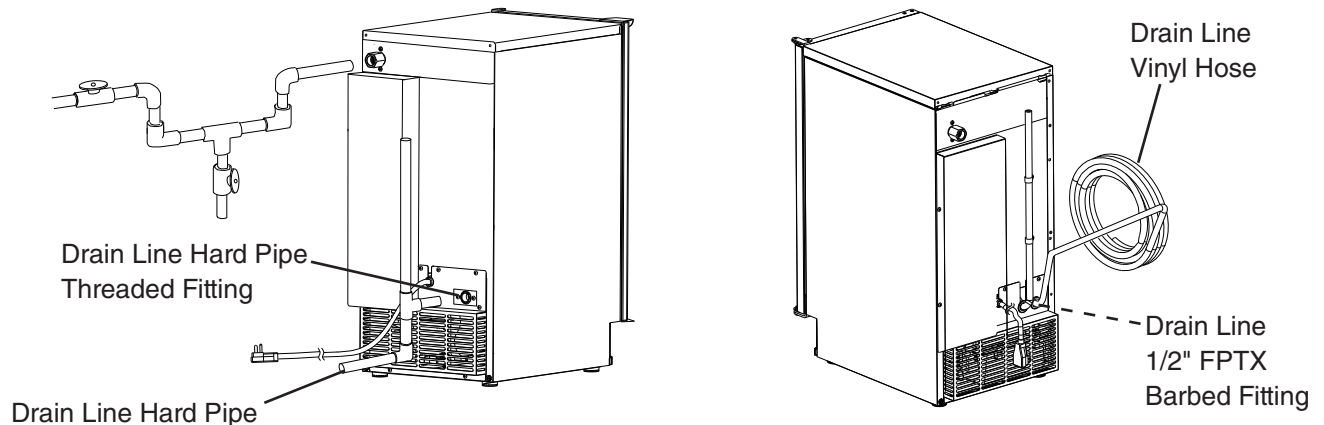

Fig. 25
a) **Hard Pipe Drain Line Installation:** When connecting with hard pipe, the maximum hard pipe length is 20 feet (6 m). The maximum discharge hard pipe lift height is 10 feet (3.05 m). See Fig. 25.
b) **Vinyl Hose Drain Line Installation:** When connecting with vinyl tubing, install the vinyl hose barbed fitting from the accessory bag into the drain outlet. Secure the discharge hose to the drain pump with the medium clamp provided in the accessory bag. **NOTICE! Do not over-tighten the clamp.** When routing the vinyl hose, do not allow traps or kinks in the hose that will restrict water flow. The maximum discharge hose length is 20 feet (6 m). The maximum discharge hose lift height is 10 feet (3.05 m). Cut excess hose as needed. See Fig. 25.